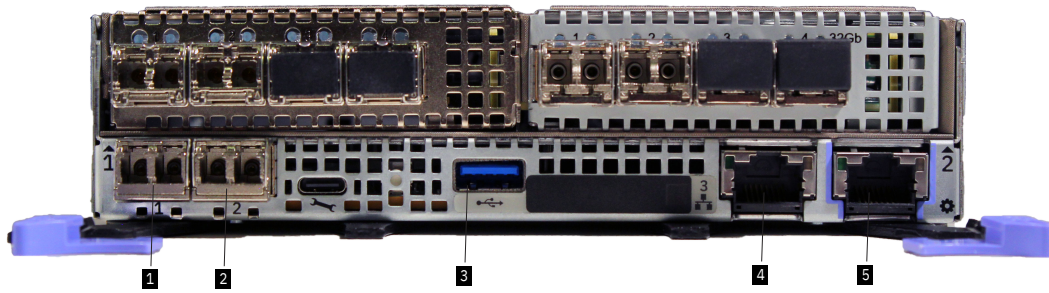

Figure 50. Ethernet ports on a canister
1. Connect Ethernet port 3 of both node canisters to the IP network that provides connection to the system management interfaces, as shown in Figure 50 on page 93.